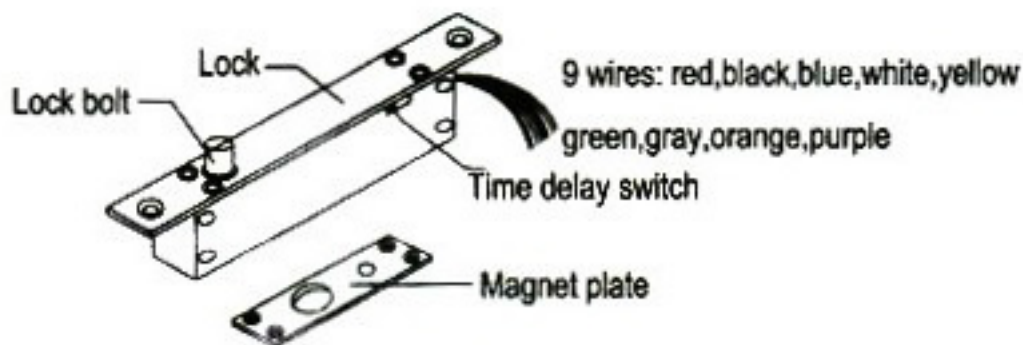

Figure 1
2.3 There are red, black, blue, white, yellow, green, gray, orange, purple 9wires (figure1). 12VDC wiring (figure 2-B); 24VDC wiring (figure 2-A). blue, white, yellow are lock bolt sensor output wires, blue (NO), white (COM), yellow (NC) (figure 3-A). gray, orange, green are door sensor output wires, green (NO), gray (COM), orange (NC) (figure 3-B).